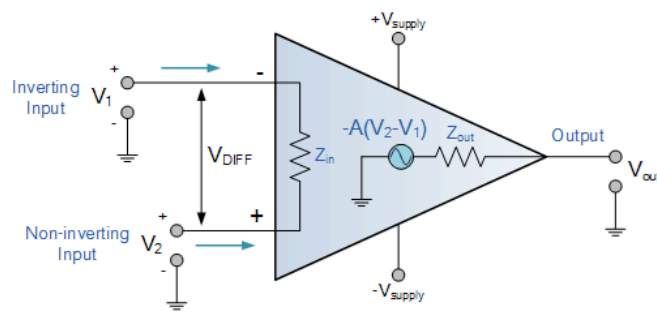

Figure 3: Model of an ideal op-amp (in open-loop configuration).
Figure 3 is the symbolic representation of an op-amp in open loop configuration. An ideal op-amp has Z_{in} approaching infinity, Z_{out} approaching zero and the gain, A approaching infinity. V_{diff} is the voltage difference between the input terminals and V_{out} is the output voltage applying the gain, A to V_{diff} . The supply voltages (positive and negative) for the device are labeled as $+V_{supply}$ (positive potential) and $-V_{supply}$ (negative supply). For operating the device, these supply voltages are equal in magnitude i.e. $+V_{supply} = -V_{supply}$ and range anywhere between 5 to 15 volts (DC).